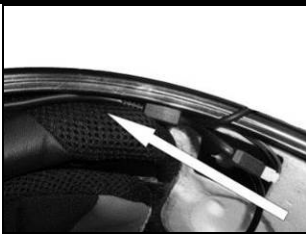

Fig. 27
- Position the battery connector and wiring underneath the shell gasket (Fig. 27).